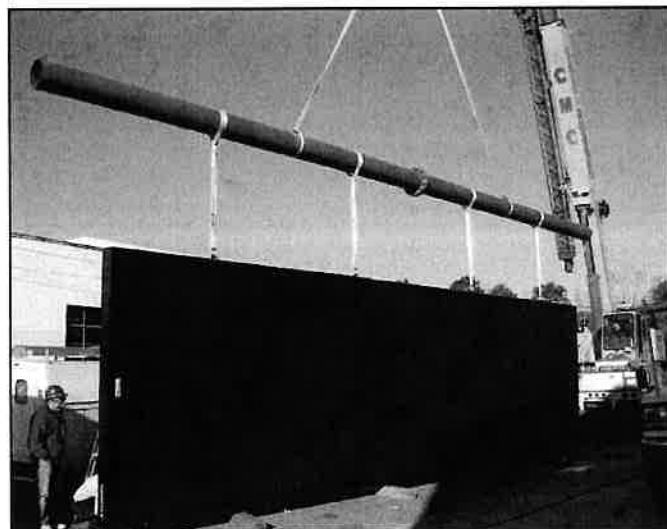

Figure 3 • Properly attached spreader bar.
- Spreader bars must be constructed out of material sufficiently strong to carry the weight of the sign without any deflection along the entire length of the bar (see Figure 3).